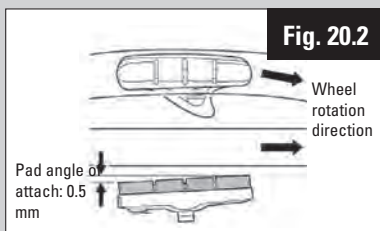

Fig. 20.2
3. Pad angle position adjustment (4 mm Allen key, fig. 20.2)